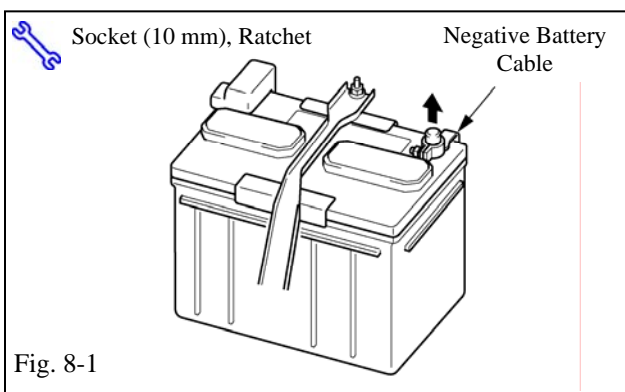

Fig. 8-1
- (1) Reconnect any disconnected connectors.
- (a) Reconnect the vehicle's negative battery cable. (Fig. 8-1)
- (1) Reconnect the negative terminal back to its original position.
- (2) Tighten the nut with 4.1 N-m (36 lbf-in) of torque.
- (3) Be careful not to touch the positive battery terminal.